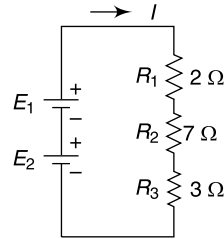

Fig. 4.11 Circuit of Ex. 4.3
4.3 In the circuit shown in Fig. 4.11, if $E_1 = 10\ \text{V}$ and $E_2 = 7\ \text{V}$, find the current through the resistors.
4.4 Determine the current through the resistors in the circuit shown in Fig. 4.11 when the polarity of E_2 is reversed.
4.6 Determine the power dissipated in each resistor of Fig. 4.11 and also find the total power.
Power dissipated across the $2\ \Omega$ resistor in Fig. 4.11 is $I^2 \times 2$, i.e., $(1.4167)^2 \times 2$, i.e., 4.014 W. (The value of circuit current has been obtained in Ex 4.3 as 1.4167 A.)